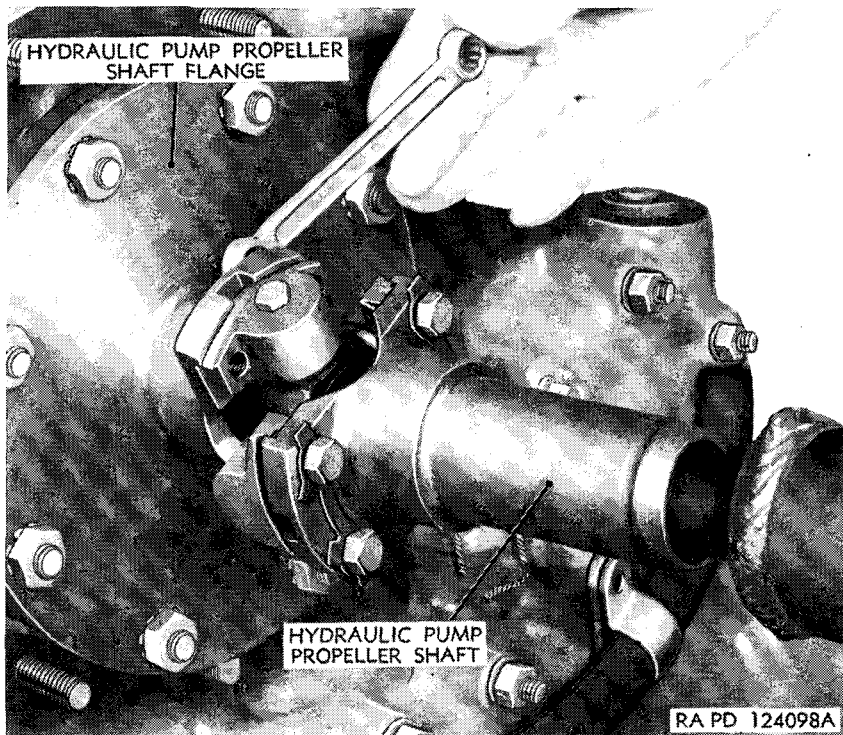

Figure 29. Installing hydraulic-pump-propeller shaft to accessory-power-take-off shaft.
m. Lower the propeller shaft through the opening left by removal of the rear ration box, and push the back end of the shaft out through the hole in the rear bulkhead to mate with the universal joint at the end of the flange now attached to the engine. Attach the universal joint to the flange with four cap screws and lock washers (fig. 29).